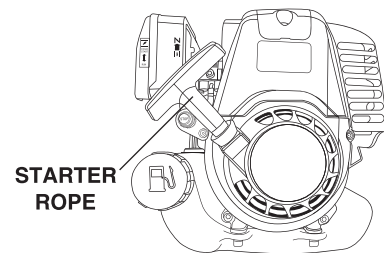

Figure 3
4.3.4 Pull the starter rope (Figure 3) lightly until you feel resistance, then pull briskly in the direction of the arrow. Return the starter rope gently.